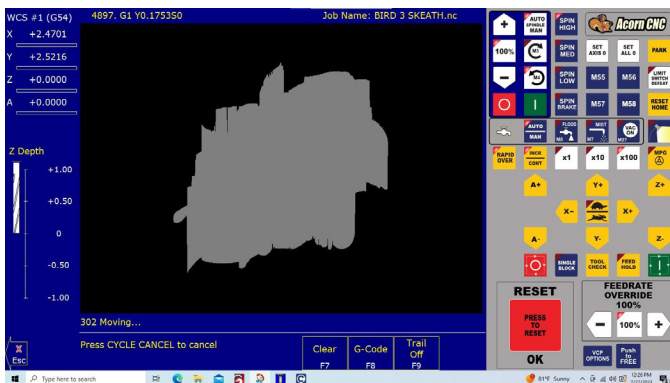

FIGURE 19
- When the G-code program is loaded, the program will begin to run (see Figure 19).